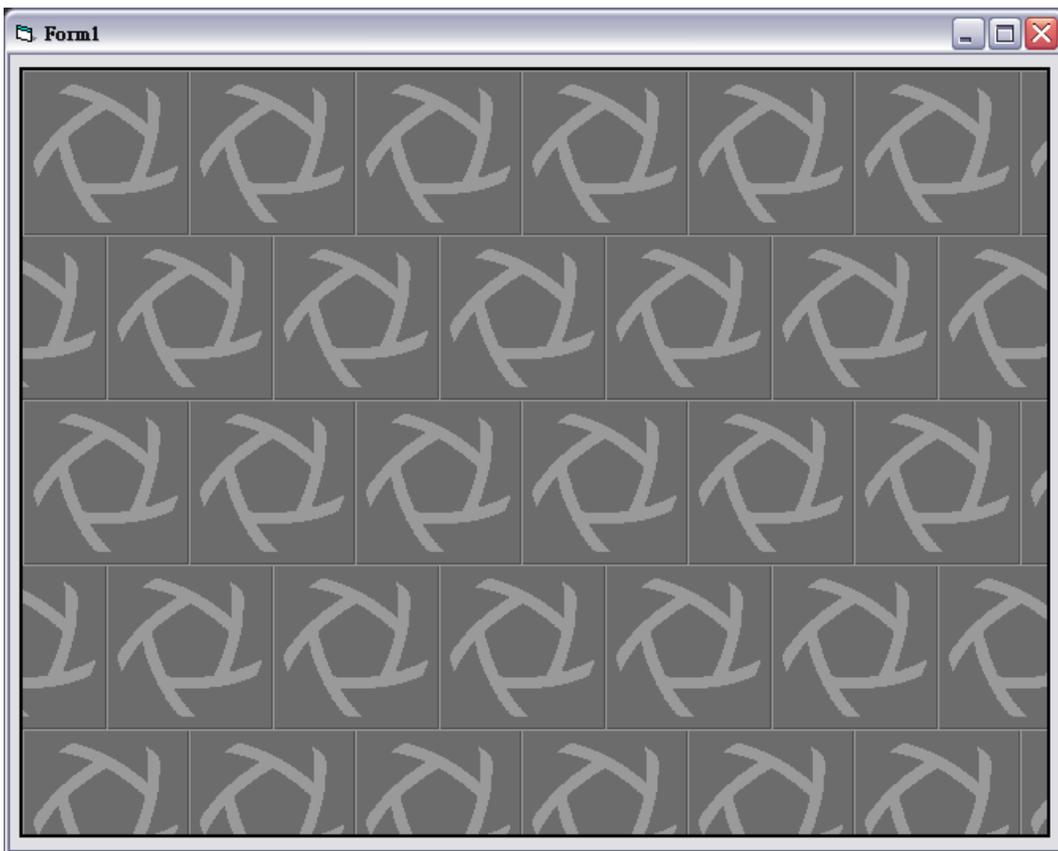

Figure 15.
**bool ShowToolBar (R/W, Default=TRUE)**; This property determines the visibility of tool bar which is located at the bottom of vision framework. Set as FALSE to hide the tool bar if users would like to make the vision framework more compact as shown in Figure 15.